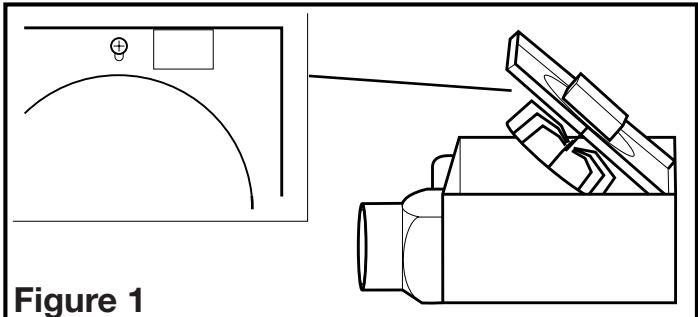

Figure 1
2. Remove the fan's venturi assembly, which is secured in place with one screw through the venturi (**Figure 1**). This is a captive screw and will stay installed in the venturi. Keep the venturi assembly and the grill in the carton until needed so they do not get damaged or lost.